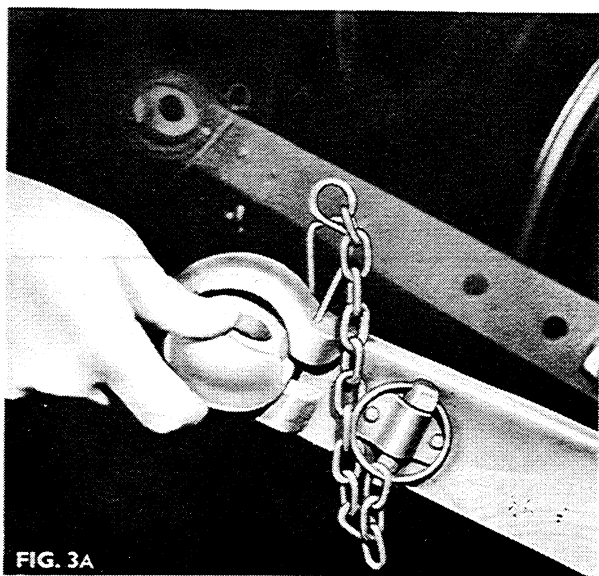

FIG. 3A
1. Fig. 3A. Pull the spring clip upwards, as shown.